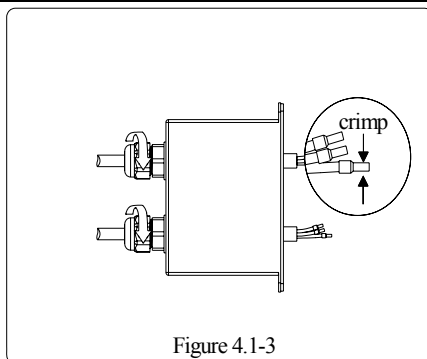
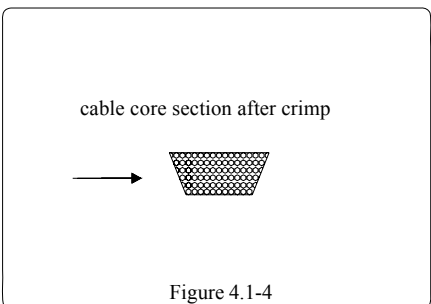

Figure 4.1-3
Figure 4.1-4
7. Compress the terminal head by professional tool and screw down screw cap slight. Refer to Figure 4.1-3、 Figure 4.1-4.